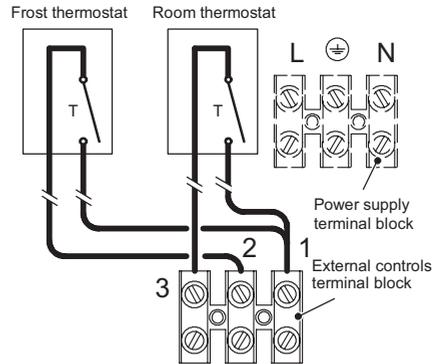

Fig. 6.20
- Connect the frost thermostat between terminals 1 and 2 as shown in Fig. 6.20.